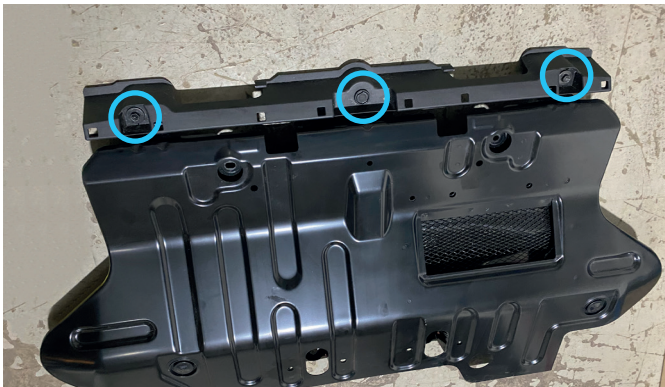

Fig. 3
3. Remove factory plastic cover from factory skid plate as shown in fig.3.